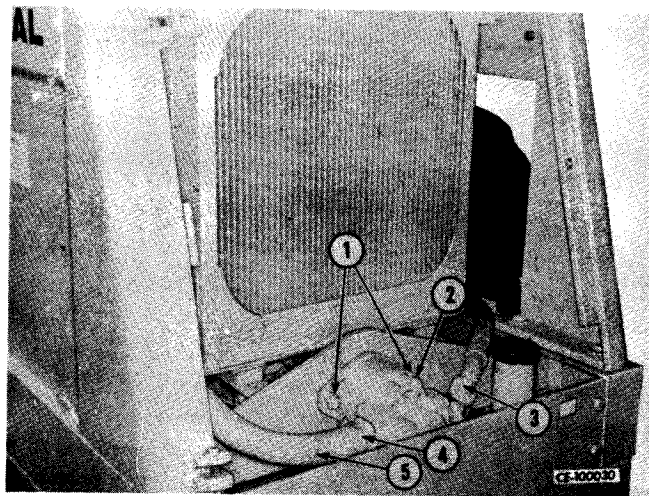

Figure 11-8
Drain the hydraulic system or using a suitable plug, loosen hose clamp (4, Fig. 11-8) and remove supply line (5). It is mandatory to drain the hydraulic reservoir and change filters when the hydraulic pump is serviced.